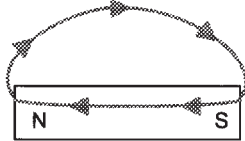

Figure 10.5 Closed path
- 3 Each line of magnetic flux can be considered to form a closed path. This means that a line of flux emerging from the N pole of a magnet and, passing through the surrounding space back to the S pole is assumed to continue through the magnet back to the N pole to complete the closed loop (Figure 10.5).